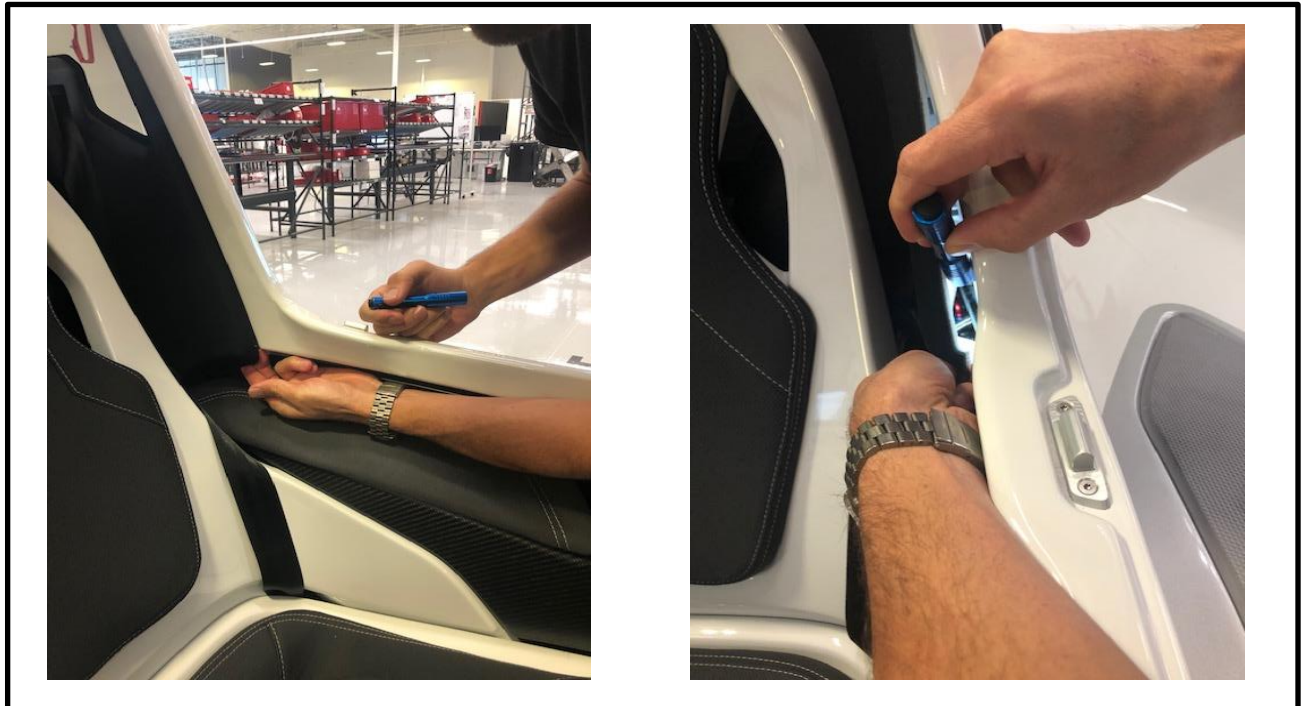

Figure1: Hook the left side cabin liner with fingers as shown and carefully flex liner inboard enough to insert a small flashlight.
- 2) Carefully flex back the left-hand cabin side liner as shown in figures 1 and 2 and visually inspect the fuel pump for a serial number as shown below. Figure 3 may be helpful in determining the location of the pump in the aircraft and figure 6 may be helpful in locating the serial number on the fuel pump assembly